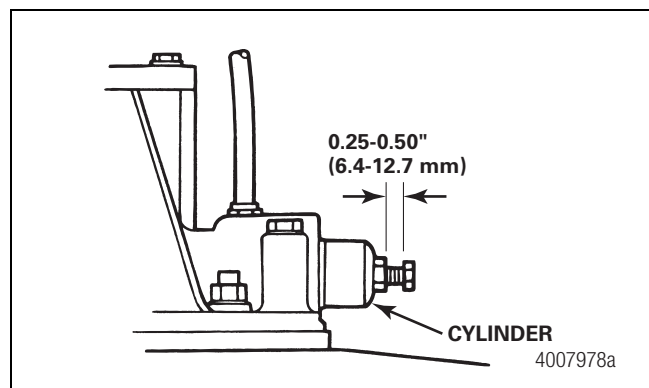

Figure 11.3
- D. Turn the cap screw to the right until the head is approximately 0.25 to 0.50-inch (6.4 to 12.7 mm) from the cylinder. The cap screw is now in the service position and the DCDL shift collar is locked (engaged). Figure 11.3. When turning the cap screw you will feel a small amount of resistance. This is normal. If you feel a high resistance before achieving the 0.25- to 0.50-inch distance between the cap screw head and cylinder, STOP TURNING THE CAPSCREW and continue with Steps E and F.